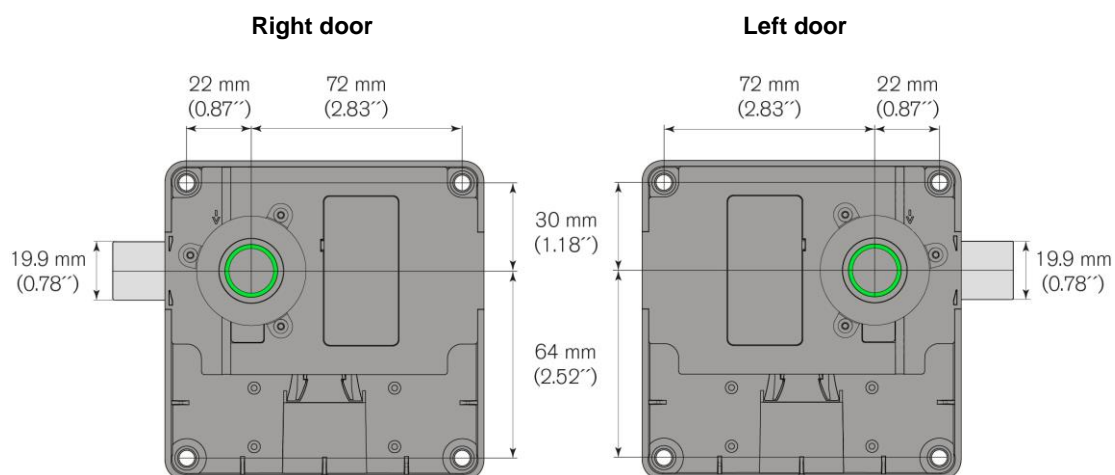
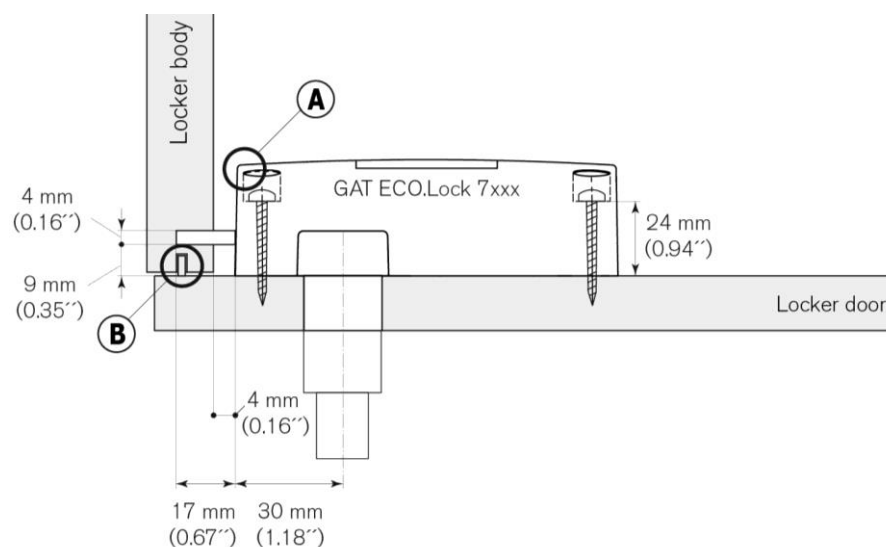
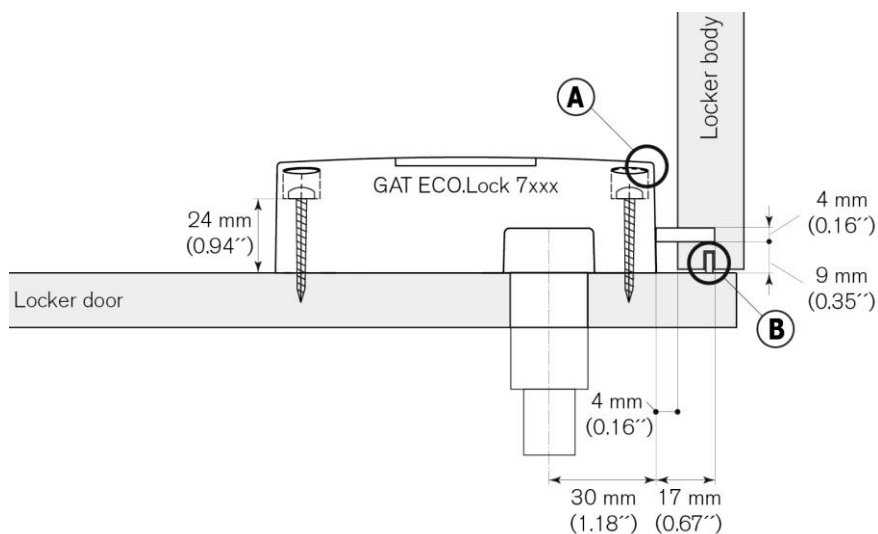
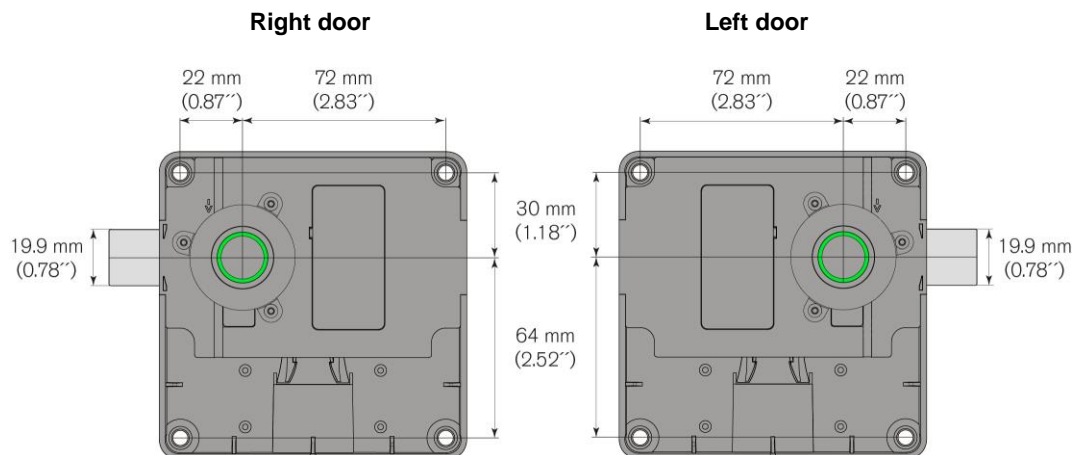

Figure 3.4 - Position of the button drill hole for non-metallic doors
Figure 3.5 – Installation measurements for left-hinged doors
Figure 3.6 – Installation measurements for right-hinged doors
Figure 3.8 - Position of the button drill hole for metallic doors
- ▶ Drill 1 hole into the locker door for the lock button. Position the button hole according to the measurements in Figure 3.4 and Figure 3.5 (for right-hinged doors) or Figure 3.6 (for left-hinged doors).
- ▶ Mark out 4 mounting holes on the inside of the locker door for the lock housing. Position the holes according to the measurements in Figure 3.4 and Figure 3.5 (for right-hinged doors) or Figure 3.6 (for left-hinged doors).
- ▶ Mark out and drill 1 hole into the locker door for the lock button. Position the button hole according to the measurements in Figure 3.8 and Figure 3.5 (for right-hinged doors) or Figure 3.6 (for left-hinged doors).
- ▶ Mark out 4 mounting holes on the inside of the locker door for the lock housing. Position the holes according to the measurements in Figure 3.8 and Figure 3.5 (for right-hinged doors) or Figure 3.6 (for left-hinged doors).